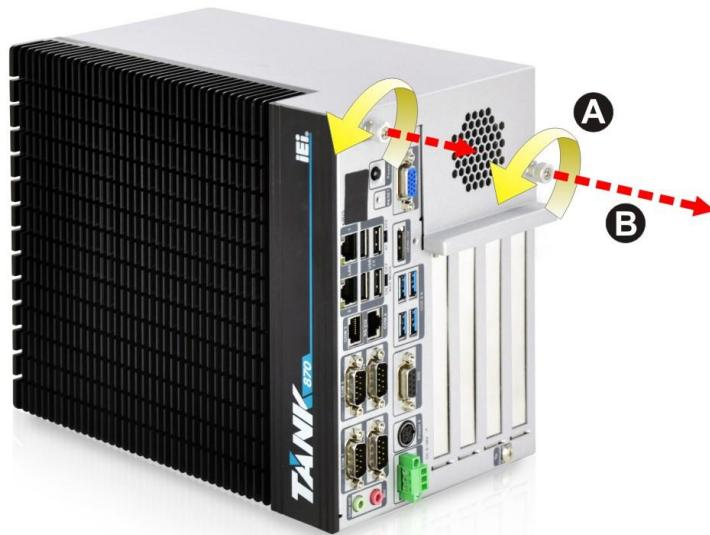

Figure 3-1: Unscrew the Cover
- Step 1:** Loosen the two thumbscrews on the front panel, slide the cover outward, and then lift the cover up gently (**Figure 3-1**).
Step 1: Loosen the two thumbscrews on the front panel, slide the cover outward, and then lift the cover up gently (**Figure 3-1**).